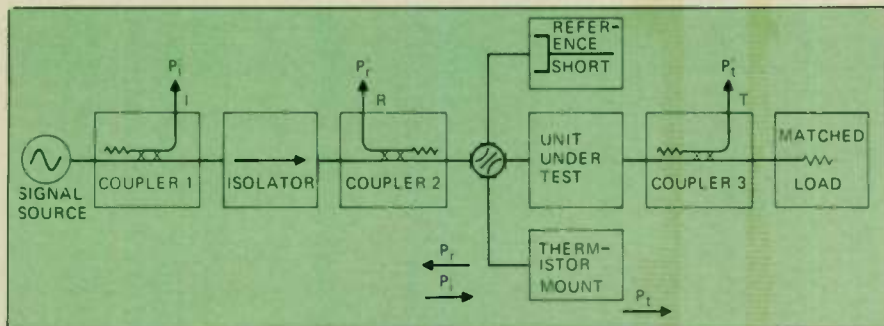

Fig. 1 Ideal reflectometer system.
A simplified block diagram of an ideal reflectometer system is shown in Figure 1. Power from the signal source is applied to the unit under test and incident, reflected, and transmitted power levels are measured at ports I, R, and T, respectively. From this information the insertion loss (IL), the return loss (RL), the voltage reflection coefficient (Γ), and the SWR of the unit can be determined from the following relationships: